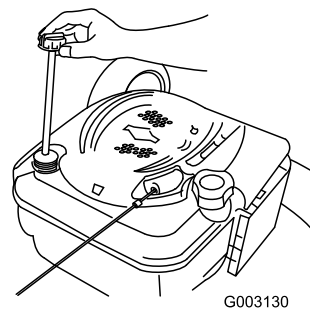

Figure 28
2. Remove the dipstick (Figure 28).